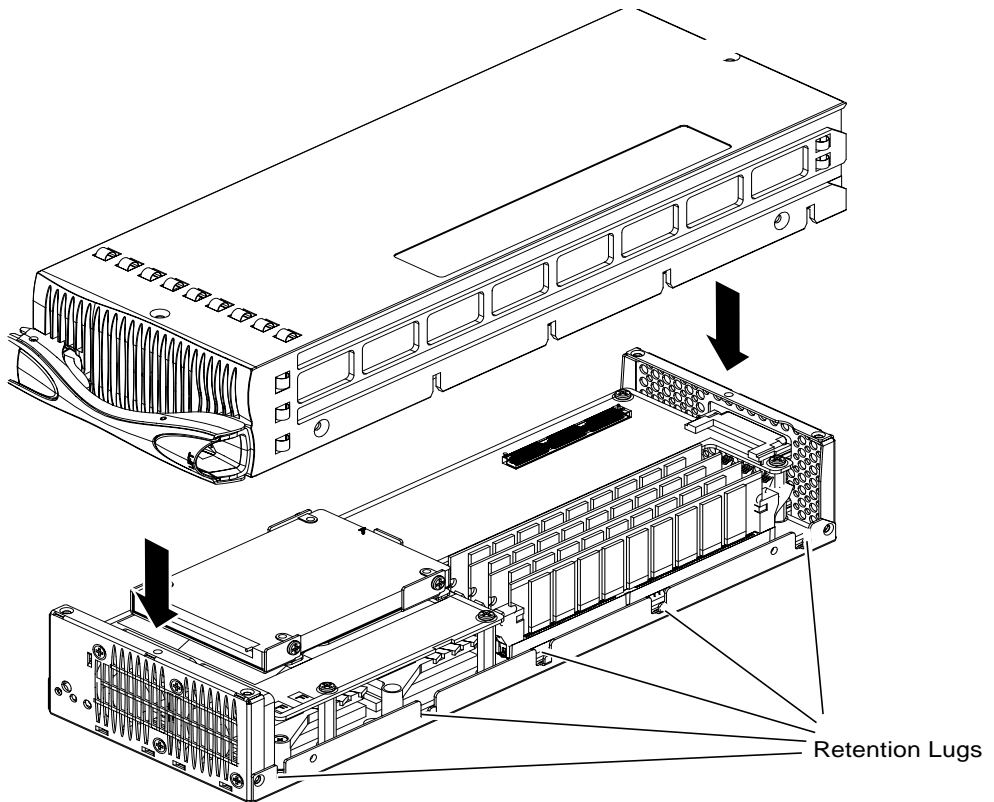

FIGURE 5 Lowering the DIMM Cover on to The Blade Enclosure
4. Place the blade cover on to the blade (FIGURE 5).